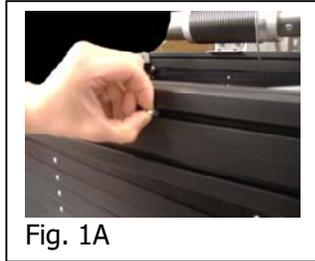
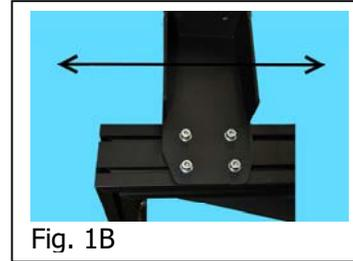

Fig. 1A
Fig. 1B
- In order to mount the four metal brackets shown on Fig. "B" above on the upper aluminium frame of the PPL 2500, please use screws, washers and crowned nuts mentioned on "C, D, E" of the supplied equipment list; put inside the groove of the aluminium frame the crowned nut as shown on Fig. 1A; connect the ceiling bracket to the profile by the socket head screws and the crowned nuts, move the ceiling bracket along the profile in order to position it where needed (Fig. 1B); now firmly tighten the screws of the four brackets.